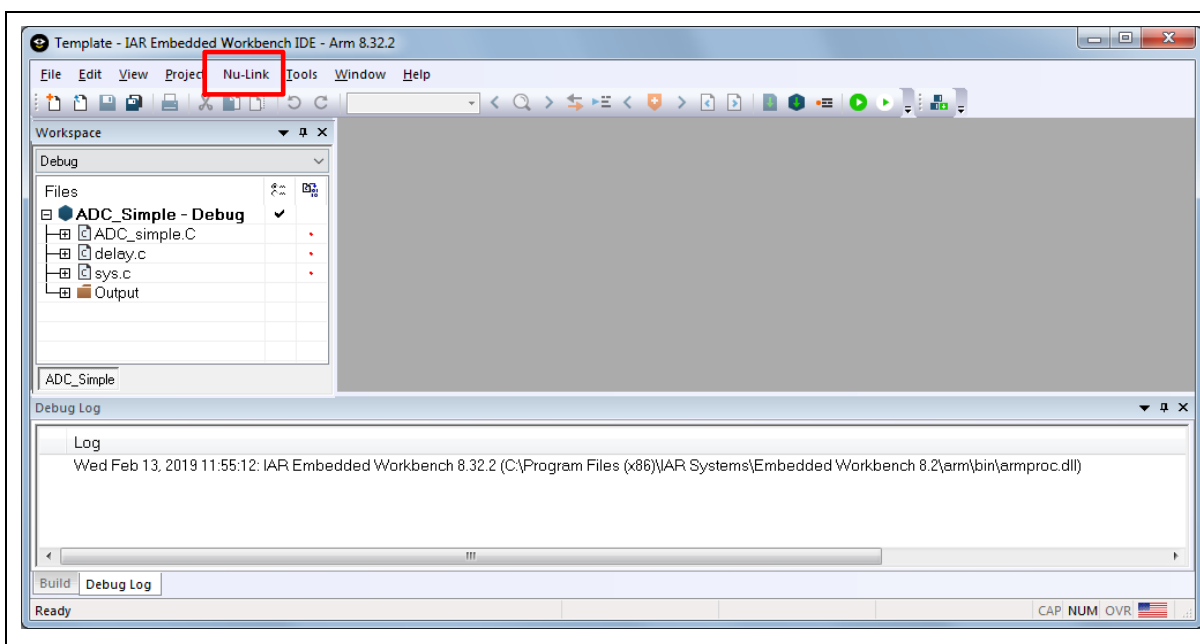

Figure 4-15 IAR EW8051 Window
2. Make sure the toolbar contain “Nu-Link” item as shown in Figure 4-15.